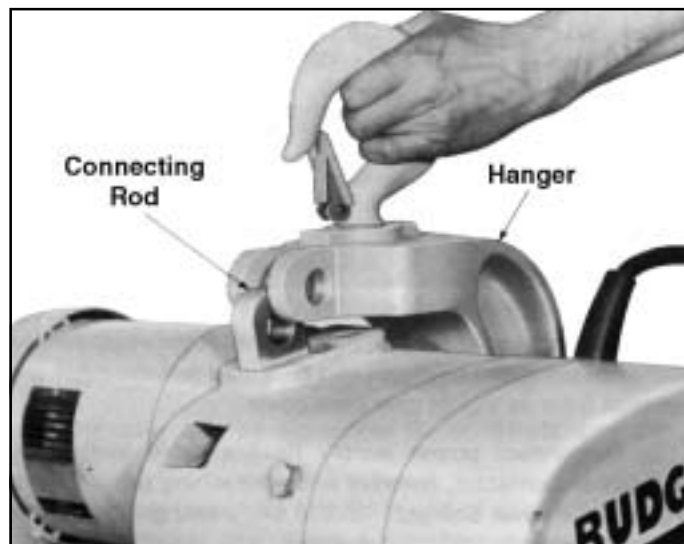
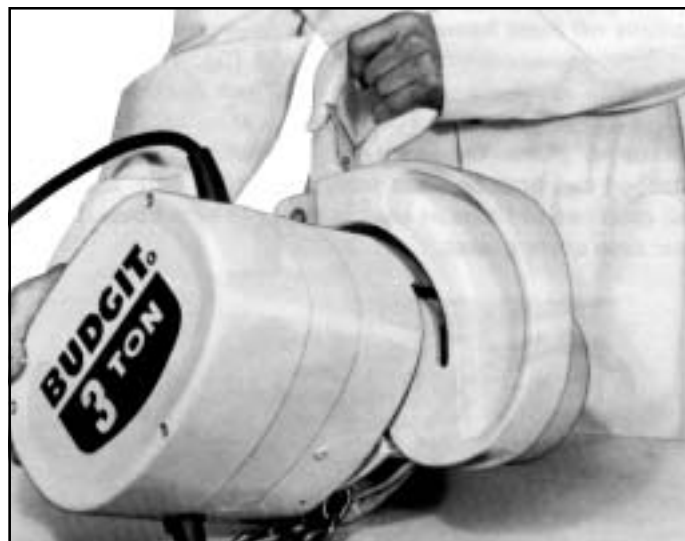
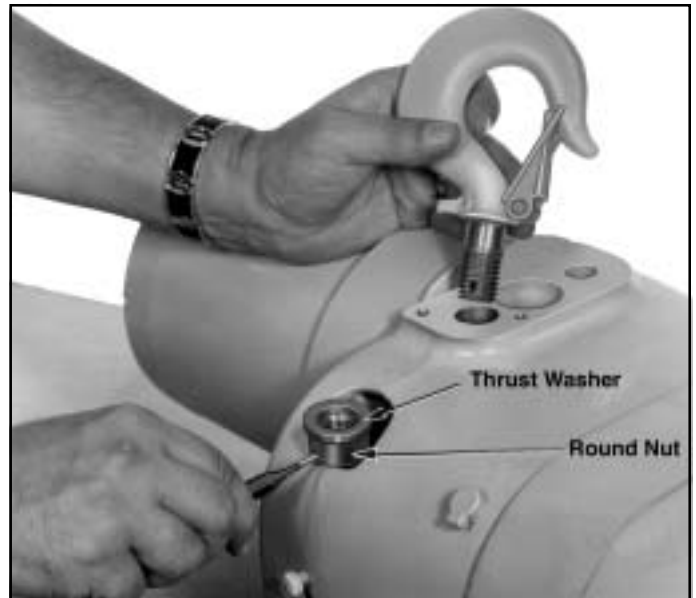

Figure 7-2. Ton Hanger Bracket Connection Pin Removed
Figure 7-3. Removing 3 Ton Hanger Bracket from Hoist Frame
Figure 7-18. Removing Upper Hook and Hook Nut from Hoist Frame (1/4 thru 1 Ton Models)
(4) To remove 3 ton hanger bracket from hoist, remove retaining ring and connecting rod pin (see fig. 7-2). Rotate hoist approximately 45° (see fig. 7-3) and hanger will slip free from hoist frame.
(1) On 1/4 thru 1 ton models, drive pin from hook nut using drift punch and unscrew upper hook. Nut is reached thru access hole in side of hoist frame. See figure 7-18.
(3) On 3 ton models, remove retaining ring from connecting rod pin and push connecting rod pin through bracket and connecting rod, releasing hanger (see fig. 7-2). Raise hanger above hoist frame to provide access to hook nut. Rotate hook until grooved pin in nut is visible from end of hanger frame. Using a drift punch, drive grooved pin thru hook nut until it hits hanger pocket. Remove drift far enough to hold nut from turning and unscrew hook from nut. Thrust washer will fall free.
(4) To remove connecting rod (fig. 7-2) on 3 ton hoist, drive pin from rod nut using drift punch and unscrew connecting rod. Nut is reached thru access hole in side of hoist frame. (See fig. 7-18).